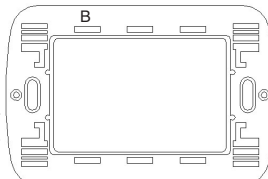

Fig. 8 -Portaplacca "B" Holder plate "B"
**CORNICE PORTAPLACCA "B" (Fig.8)**
**HOLDER PLATE "B" (Fig.8)**